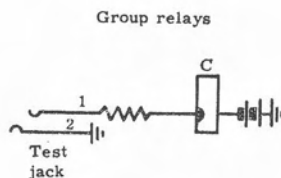

Figure 36. "Cascading" test.
6.53 "Cascading" test (figure 36). If group relay test-jack springs 1 and 2 are connected together, that group's relay C operates and starts a linefinder. Since none of the contacts in that finder's bank are marked, the finder will step to the fifth level, rotate to the eleventh step, advance the distributor, and release. The next linefinder will repeat this, and so on. This "cascading" permits a rapid check of the vertical and rotary operations of all finders as they operate in rapid succession.